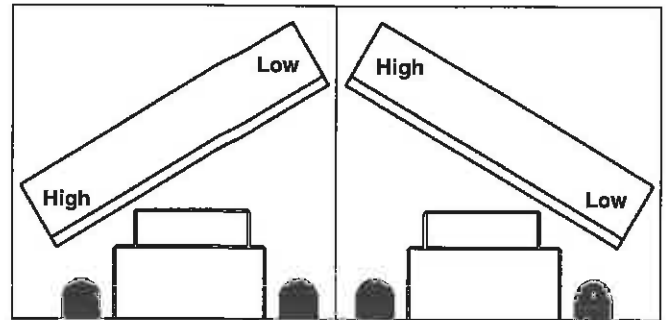

figure 30
- figure 30, turn the adjustment screw in.
- figure 30, loosen hardware that attaches the swing assembly to the brush head assembly; lower the left-hand side of the brush head until both sides are an equal distance above the ground. Tighten the hardware.
- figure 30, lower the adjustable hitch arm.